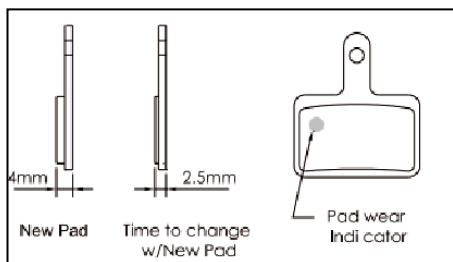

Fig. H-1 Identify worn brake pads
⚠CAUTION: Pad should be replaced when total thickness is less than 2.5mm (friction material & metal plate) or the pad wear indicator appearance. (**Fig. H-1**)
- Check brake pad thickness - total thickness is more than recommendation values **(Fig. H-1)**.